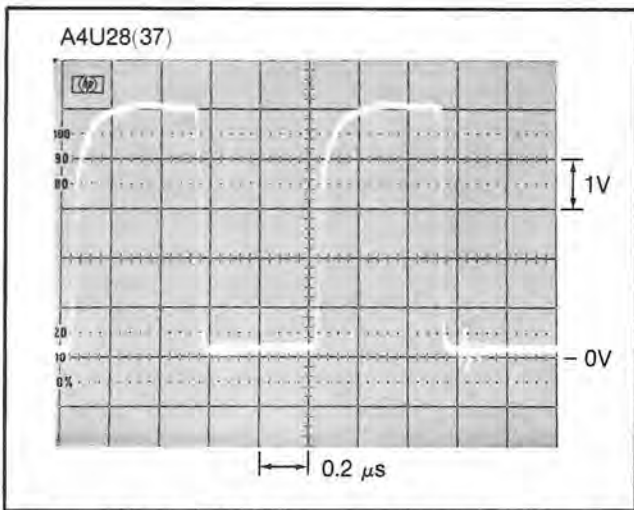

Figure 8-81. 1 MHz Microprocessor Oscillator Signal
b. If the 4 MHz signal is not present at A4U28(39), suspect A4Y2. If the 4 MHz signal is present, verify that the 1 MHz signal at A4U28(37) is present and that it is similar to the waveform in *Figure 8-81*.